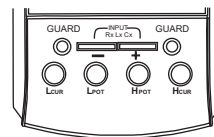

Figure 4
- a) When using square terminals, the square terminals and $L_{CUR}/L_{POT}/H_{POT}/H_{CUR}$ terminals hang in the air (shown in figure 4);